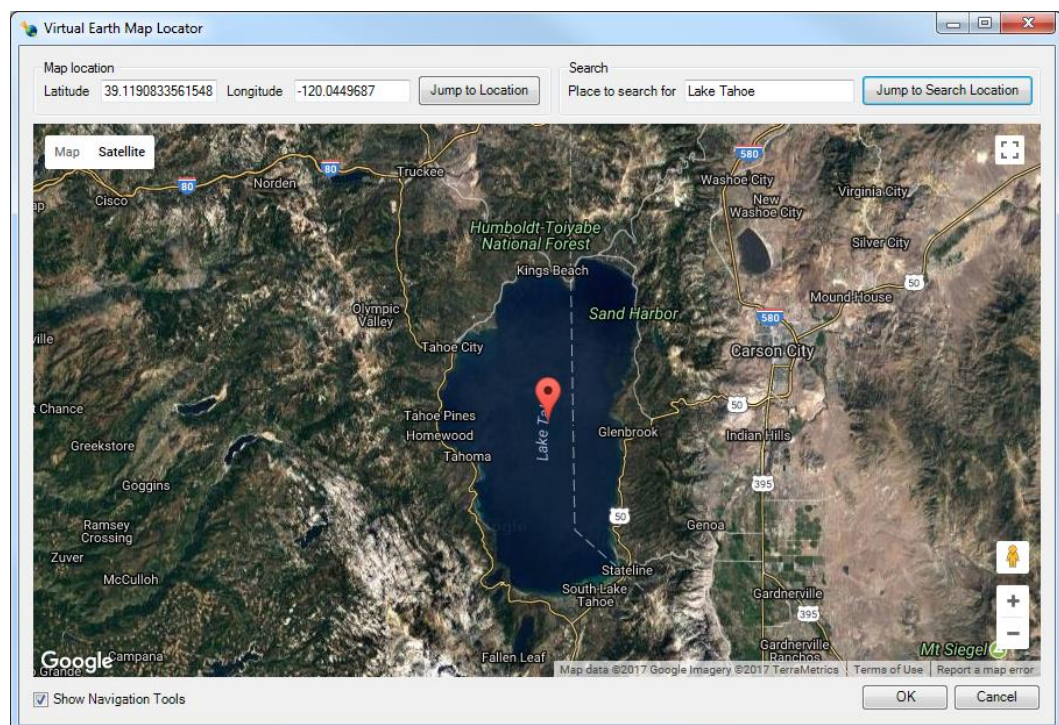

Figure 14 Virtual Earth Map Locator dialog
2. In the *Place to search for* field, type “Lake Tahoe” and click **Jump to Search Location**. After a moment, Lake Tahoe will appear in the center of the *Virtual Earth Map Locator* dialog (Figure 14).